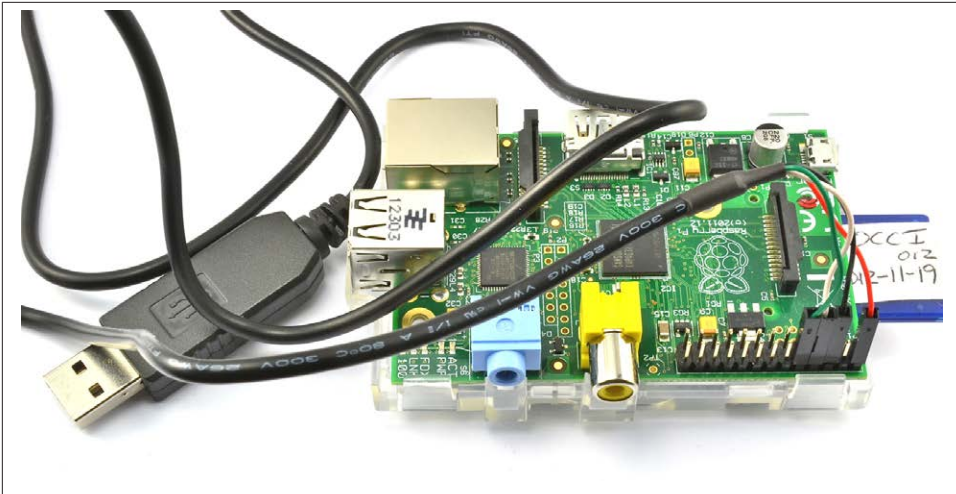

Figure 2-4. A console cable
Console cables are great for a Pi that is going to be used *headless*—that is, without keyboard, mouse, or monitor. The console cable shown in Figure 2-4 is available from Adafruit.
1. Connect the red lead to the bottom-right pin, as shown in Figure 2-4.